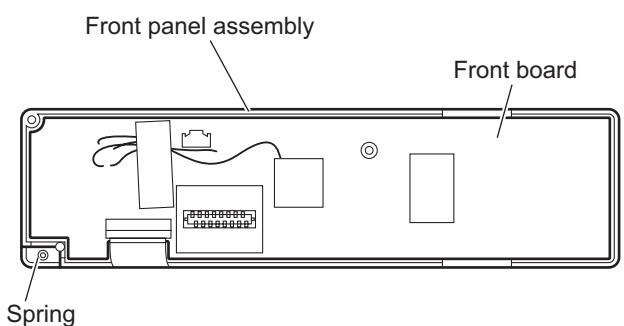

Fig.16
- Take out the front board from the front panel assembly. (See Fig.16)